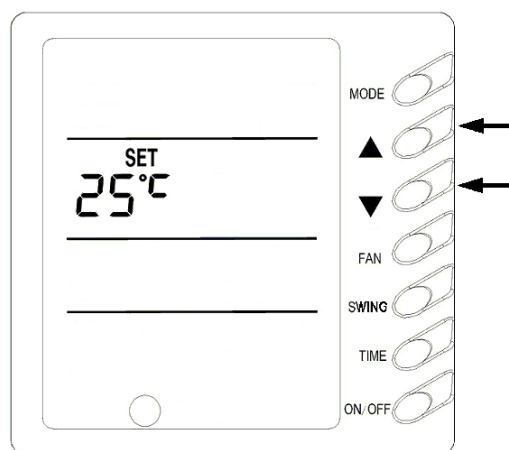

Fig.6
3) Temperature Setting (Fig.6)